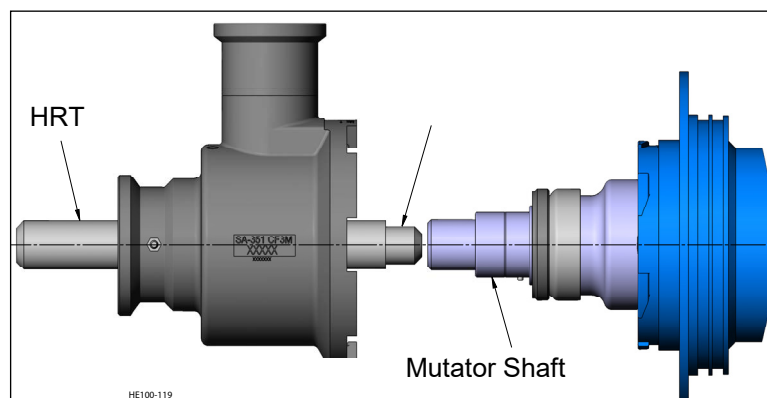

Figure 37 - Use of Head Removal Tool (HRT)
7. Insert the HRT as shown in Figure 37 and slide the head and bearing off the shaft to protect the stationary seal face during disassembly.